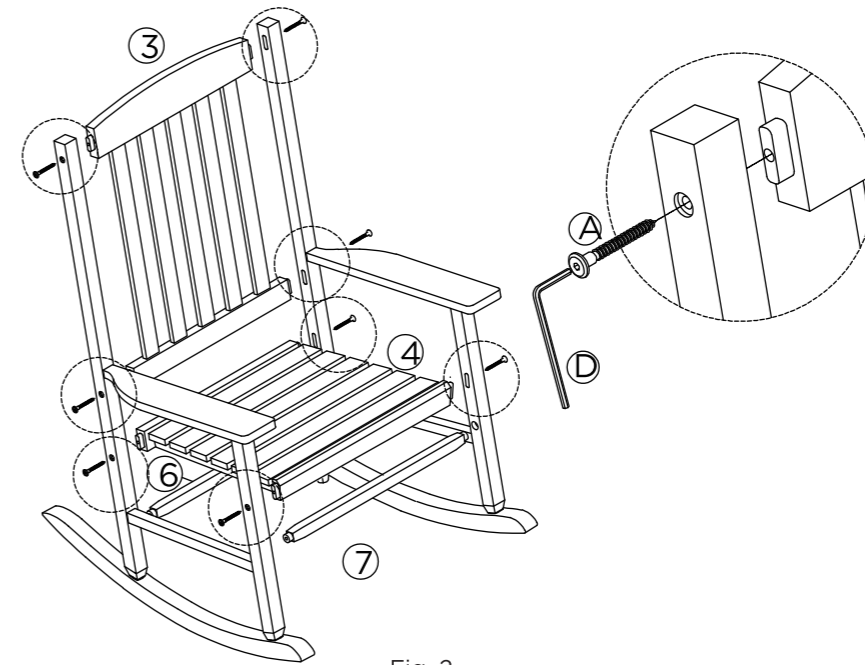

Fig. 2
2. Align the holes of the Right leg (1) with the backrest (3) and insert the screws (A). Tighten using the hex key (D).
Insert the seat (4) into the Right leg (1). Align the holes and attach with screws (A). Tighten using the hex key (D). See Fig. 2.
3. Repeat step 2 for the Left leg (2). See Fig. 2.